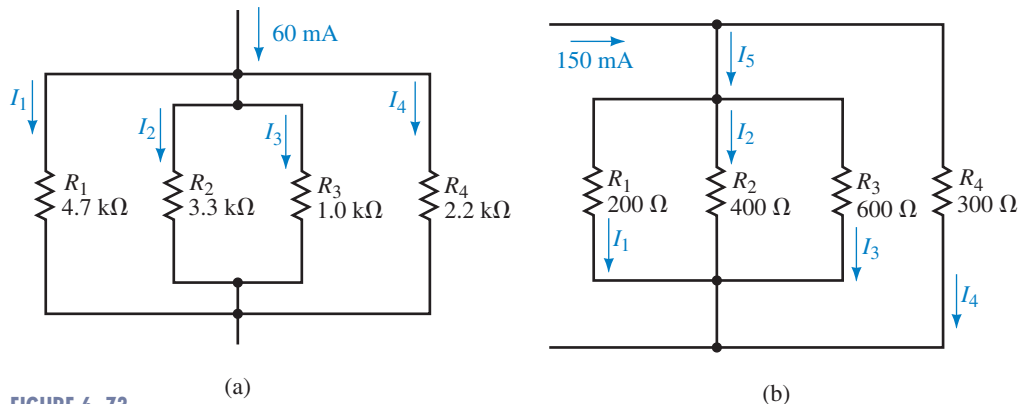

FIGURE 6-73
31. Use the current divider rule to determine all unknown currents for the networks of Figure 6-73.